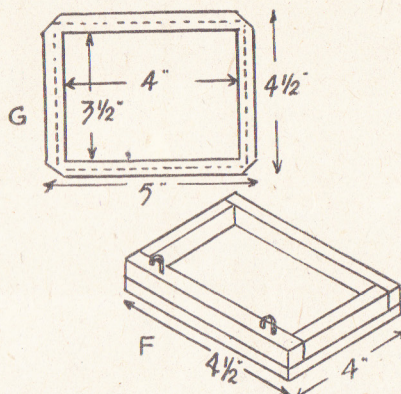

Fig. 4—Type box details
The chase or type box (F) in Fig. 4, is a rectangle of  $\frac{1}{4}$  in. fretwood. Strips of wood,  $\frac{3}{8}$  in. thick and  $\frac{1}{4}$  in. wide are firmly glued and screwed to it, making a shallow tray to hold the type. A metal frame is now made to the size given at (C) from tinplate. This is to hold the padding between the type and flat base of